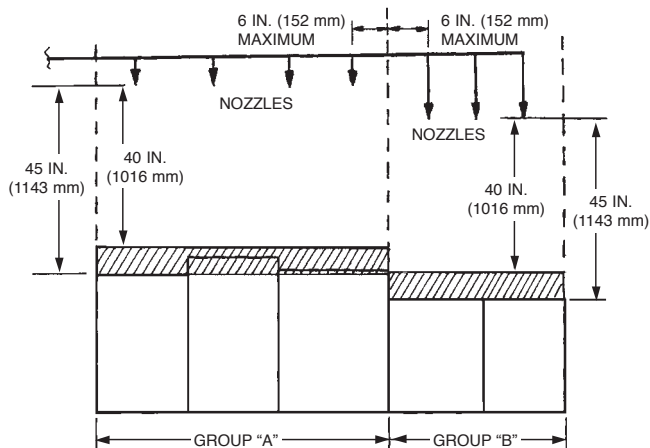

FIGURE 4-112
- On protected appliances, all hazard surfaces located in a group must be within 40-45 in. (1016-1143 mm) from the nozzle(s). Once that dimension is exceeded, a new group must be started. See Figure 4-112.